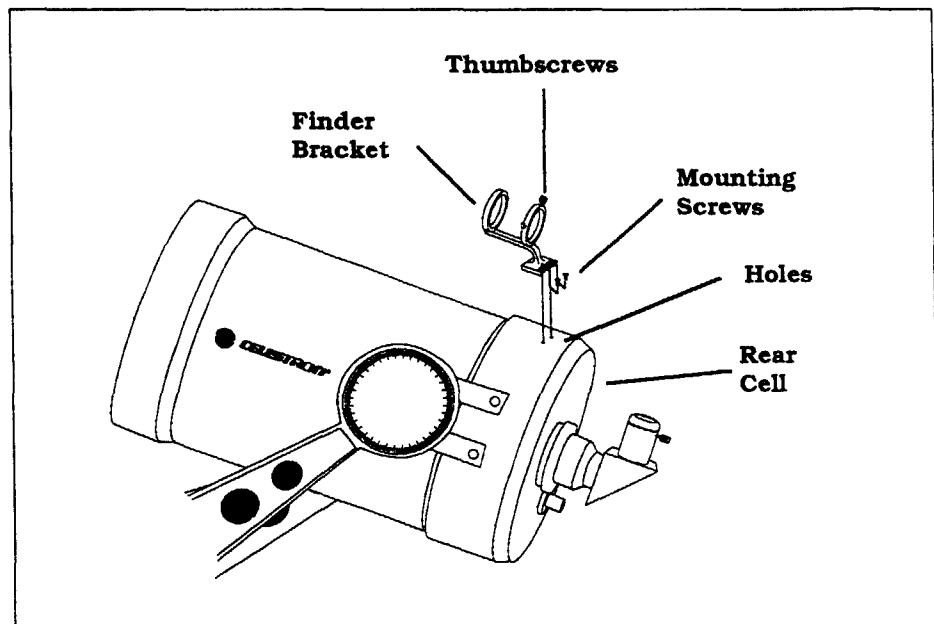

Figure 4-5
3. Place the finder bracket over the holes. Orient the bracket so that the ring with the holes for the adjustment screws is closer to the rear cell of the telescope (see figure 4-5).